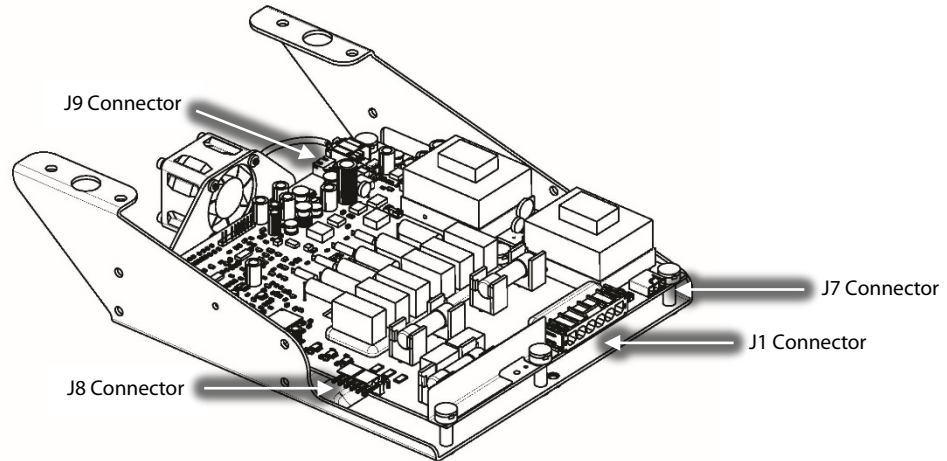

Figure 5 – Closed-Top Soft Start
3. Disconnect the J9 connection from Soft Start if equipped. Refer to Figure 5 – *Closed-Top Soft Start*.
5. Flip Soft Start over (board side up) and disconnect J1, J7, and J8 from the Soft Start. Refer to Figure 5 – *Closed-Top Soft Start*.